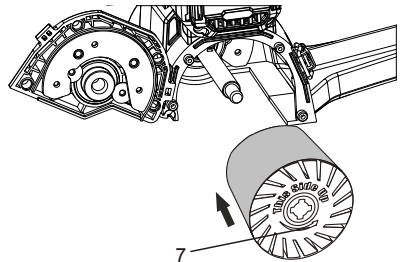

Fig. 4
6. Slide the roller onto the roller shaft (Fig. 4).
**NOTE:** The roller can only be installed one way. When properly installed, the directional arrow (7) on the end of the roller will be visible.